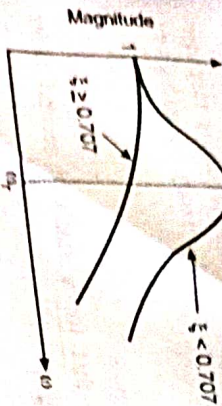

Fig. Q.9.1
And in such case system will not exhibit resonant peak. This can be shown in Fig. Q.9.1.
- All these co-relations are shown in the Fig. Q.9.1, Q.9.2, Q.9.3 and Q.9.4.